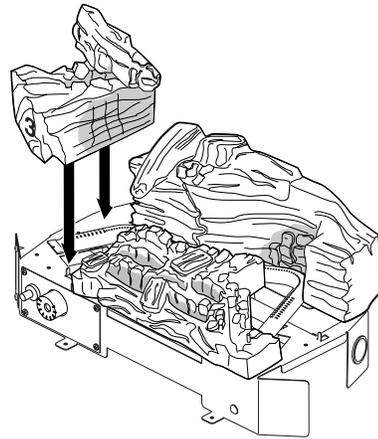

Figure 30 - Installing Log #3 (Model LGX3924NT Shown)
3. Place log #3 on the left side of the base. It will wrap around the front end of the back burner and fit over the tab at the front of the base (see Figure 30).